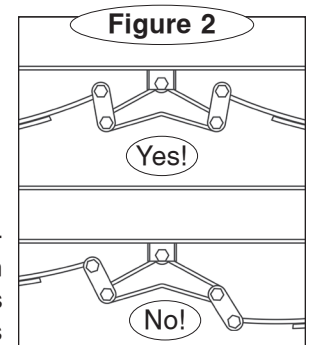

Figure 2
- Make sure that the trailer is at the correct ride height, with both of the equalizer spring shackles pointed in the correct direction (Figure 2).